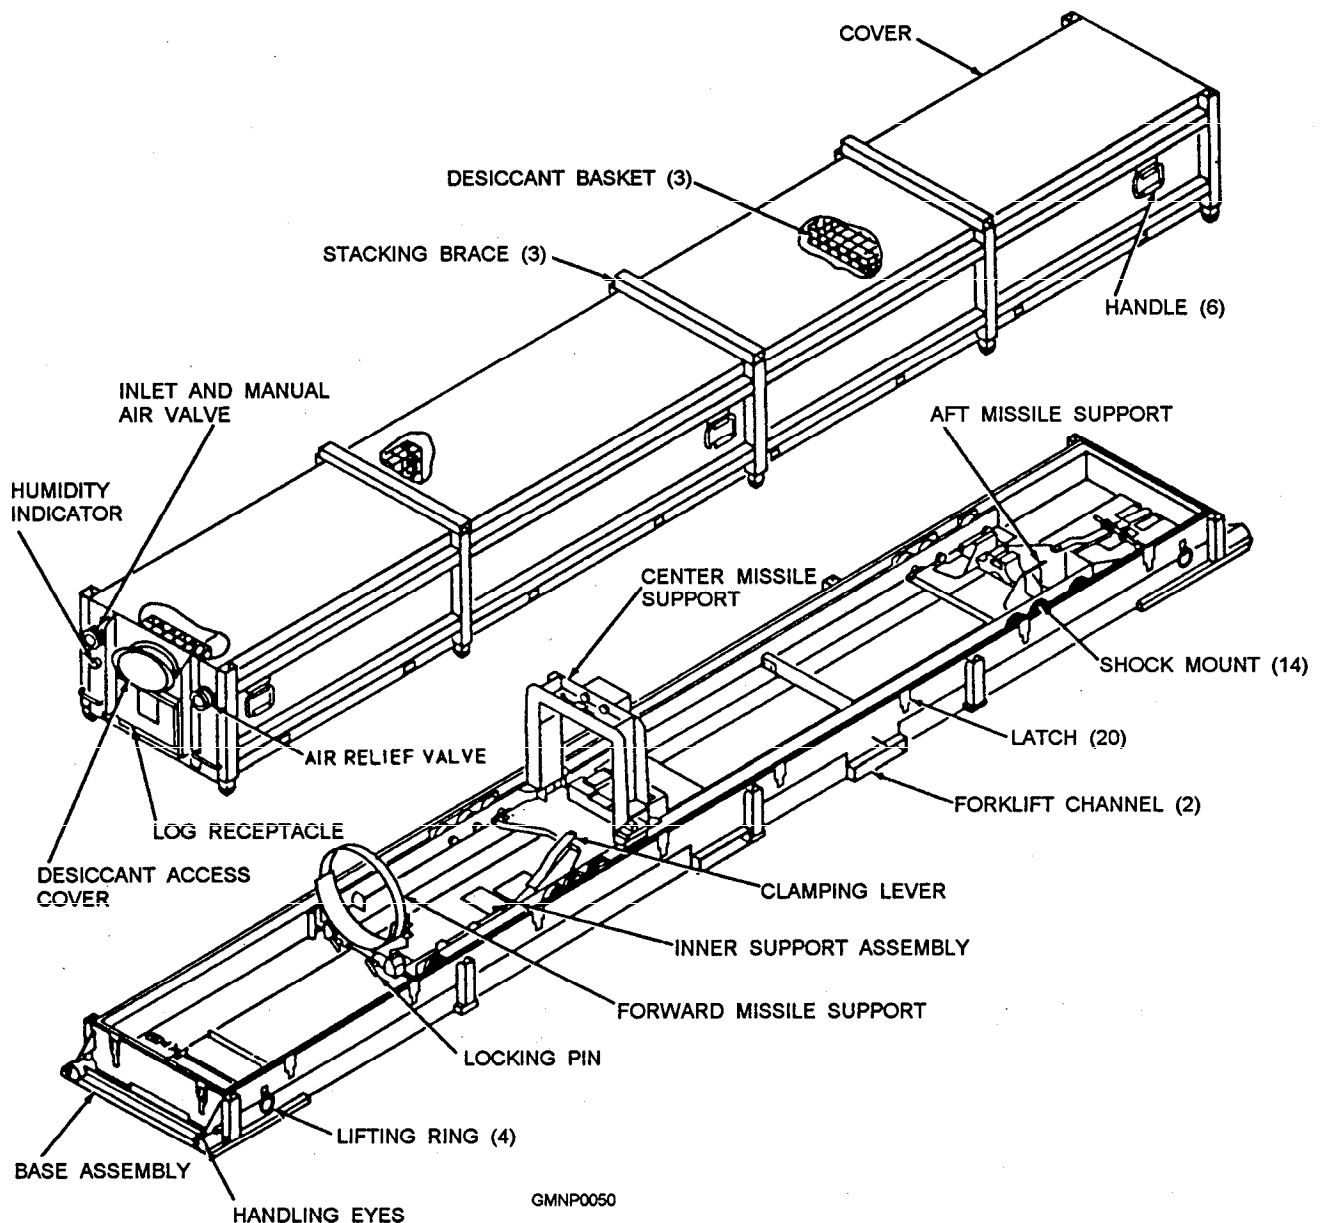

Figure 2-35.—Mk 372 Mod 5 container for Standard MR missiles.
1. Mk 372 container – Standard missiles (SM)
MK 372 CONTAINER.— The Mk 372 Mod 5 container is used to ship and stow medium range (MR) Standard missiles (fig. 2-35).